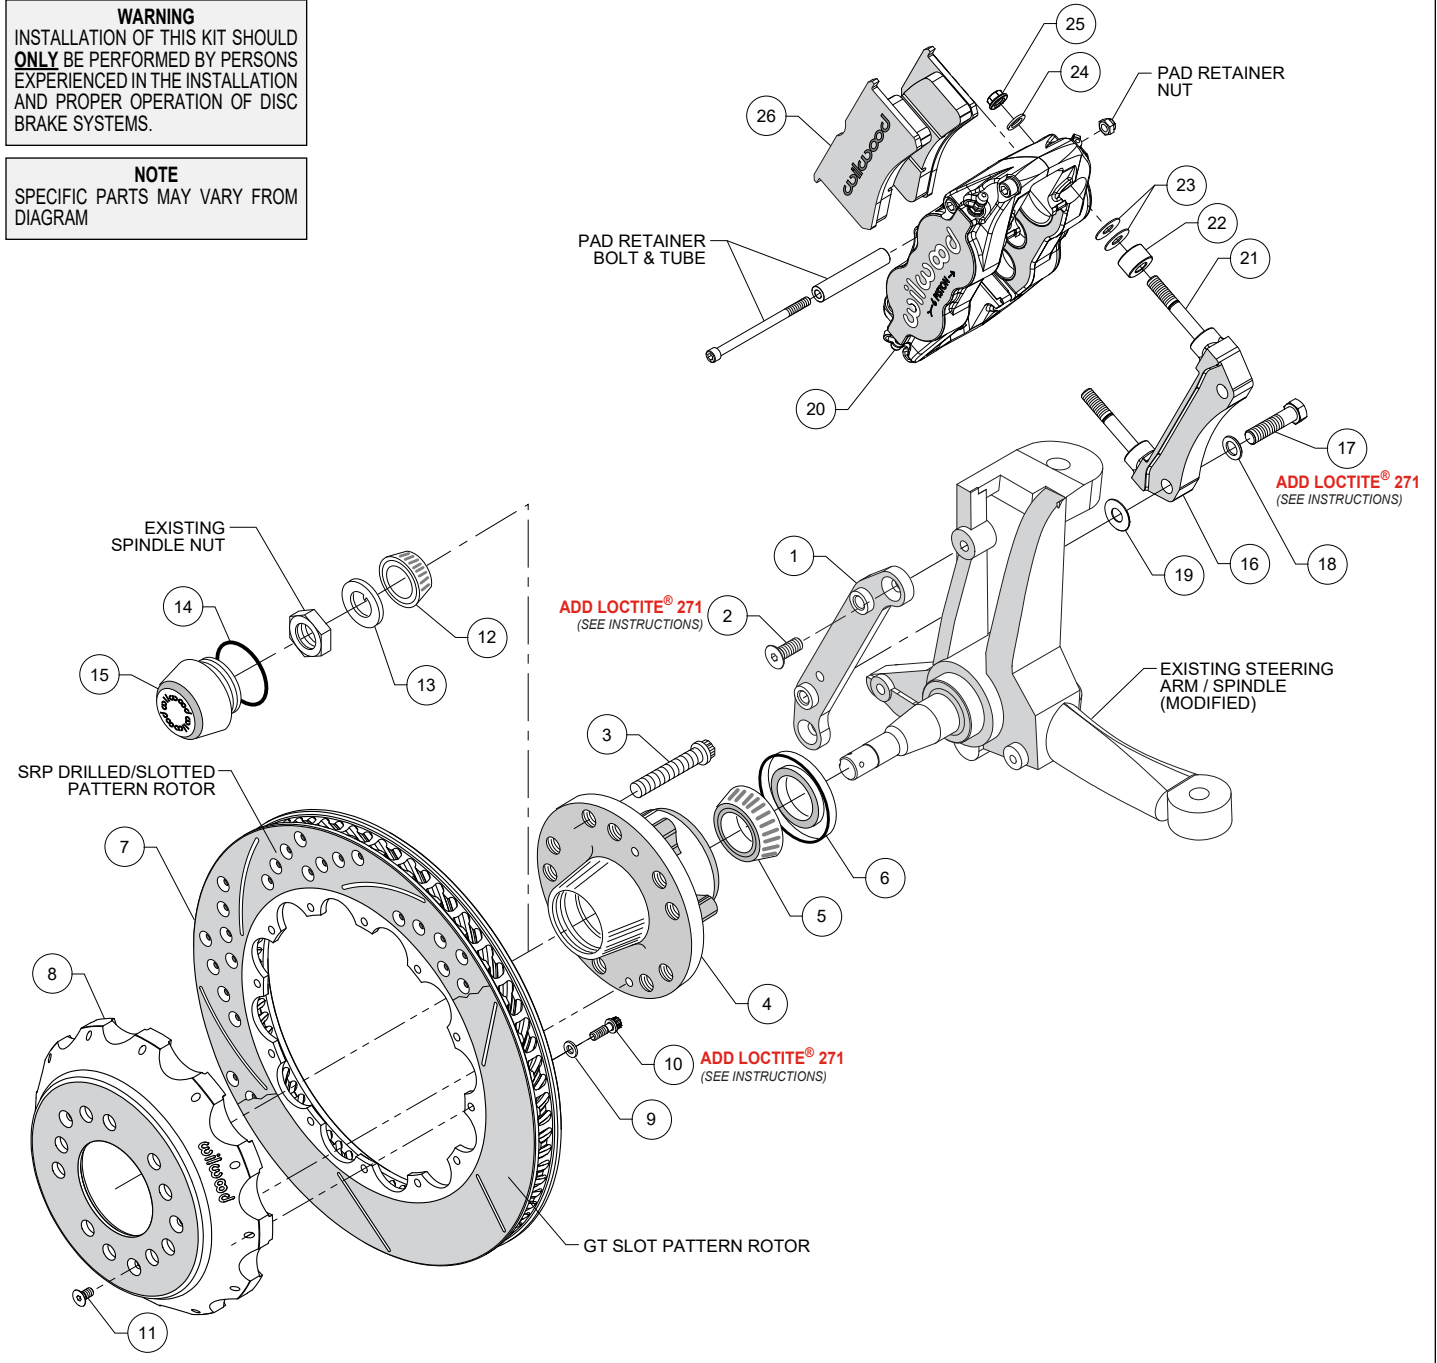
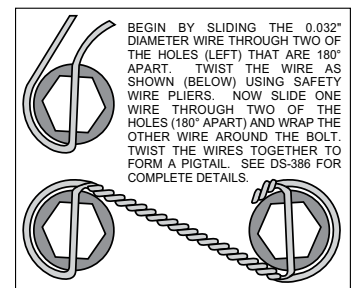

Figure 2. Typical Installation Configuration
Figure 4. Safety Wire Diagram
**NOTE:** Numbers in parenthesis refer to the parts list on the preceding page and Figure 2.
- Orient the caliper mounting flat bracket (1) as shown in Figure 2 and install using bolts (2). **NOTE:** Be sure the heads of the flat mount bracket clinch nuts (1) are facing outward toward the wheel. Temporarily tighten the mounting bolts. **NOTE:** The bracket must fit squarely against the mount bosses on the upright. Inspect for interference from casting irregularities, machining ridges, burrs, etc. After the bracket fitment has been checked, remove the bracket mounting bolts (2) one at a time, apply red *Loctite*® 271 to the threads and torque to 30 ft-lb.
- Install five new wheel studs (3) into the hub (4). Torque to 77 ft-lb. **NOTE:** There are two five lug patterns in the hub (5 x 4.50 and 5 x 4.75). Make sure of the correct hole pattern for the correct wheel application before installing studs into hub.
- Pack the large inner bearing cone (5) with high temperature disc brake bearing grease (available from your local auto parts store) and install into the backside of the hub (4).
- Install the grease seal (6) by pressing into the backside of the hub (4).
- Pack the small outer bearing cone (12) with high temperature disc brake bearing grease and install into front side of the hub (4). Slide the hub assembly (4, 5, 6 and 12) onto the spindle. Secure using spindle washer (13), stock adjusting nut, and nut locking device. Adjust wheel bearing pre-load per Original Equipment Manufacturer (OEM) specifications.
- Install the o-ring (14) and the dust cap (15) into the hub (4). **NOTE:** O-ring (14) friction will not allow cap (15) to unscrew on its own.
- With the larger I.D. side of the rotor (7) facing away from the hat (8), bolt rotor (7) to hat (8) through the backside of the rotor using washers (9) and bolts (10). Apply red *Loctite*® 271 to the bolt threads and torque to 155 **in-lb** using a criss-cross pattern. For an added measure of security, the bolts may be safety wired using standard 0.032 inch diameter stainless steel safety wire as shown in Figure 4. Please refer to Wilwood's data sheet DS-386 (available at [www.wilwood.com/Pdf/DataSheets/ds386.pdf](http://www.wilwood.com/Pdf/DataSheets/ds386.pdf)) for complete safety wire installation instructions.
- Slide the rotor/hat assembly over the studs (3) in the hub (4) taking care to align the small countersunk holes in the hat (8) with the small threaded holes in the hub (4). Install three flat head socket head screws (11) through the small holes in the hat (8) and torque to 85 **in-lb**. Check to be sure the hat seats squarely against the hub face.
- NOTE:** Please reference the caution statement at the beginning of the assembly instructions. The radial mount caliper bracket (16) should initially be installed with clean, dry threads on the mounting bolts (17). Orient the bracket, as shown in Figure 2 and install using bolts (17) and washers (18). Initially place one .030" thick shim (19) on each bolt
- between the radial mount caliper bracket (16) and caliper mounting flat bracket (1), Figure 2. Temporarily tighten the mounting bolts. Later, after the caliper alignment has been checked, the mount bolts will be secured using red *Loctite*® 271.
- NOTE:** This kit contains distinct right and left hand calipers that must be mounted in a specific direction, as described below. Initially place spacer (22) and two .035" thick shims (23) on each stud (21) as shown in Figure 2. Mount the caliper (20) onto the radial mount caliper bracket (16) using lock nuts (25) and washers (24), Figure 2. Ensure that the caliper is mounted so the largest pistons are at the rotor exit end of the caliper, in relation to the forward direction of rotor rotation. Temporarily tighten the lock nuts and view the rotor through the top opening of the caliper. The rotor should be centered in the caliper. If not, adjust by adding or subtracting .030" shims (19) as necessary between the radial mount caliper bracket (16) and the caliper mounting flat bracket (1). Always use the same amount of shims on each of the two mounting bolts (17). Once the caliper alignment is correct, remove the radial mount caliper bracket bolts (17) one at a time, apply red *Loctite*® 271 to the threads, and torque to 47 ft-lb.
- Remove the caliper pad retainer bolt, locknut, and tube from the caliper. Slide the brake pads (26) into place. They should install easily without interference. Check that the outside radius of the brake pad is flush with the outside diameter of the rotor face. Add or subtract shims (23) between the caliper and mount bracket to gain the proper alignment. Reinstall the caliper and torque the caliper nuts (25) to 28 ft-lb. Reinstall the pad retainer tube, bolt, and locknut. The locknut should be snug without play in the bolt or tube. Be cautious not to over tighten.